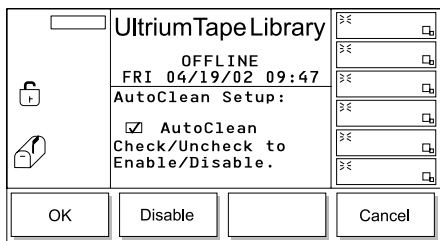

Figure 154. Autoclean Setup screen
5. Press the button below the **AutoClean** softkey. The Autoclean Setup screen displays (see Figure 154).